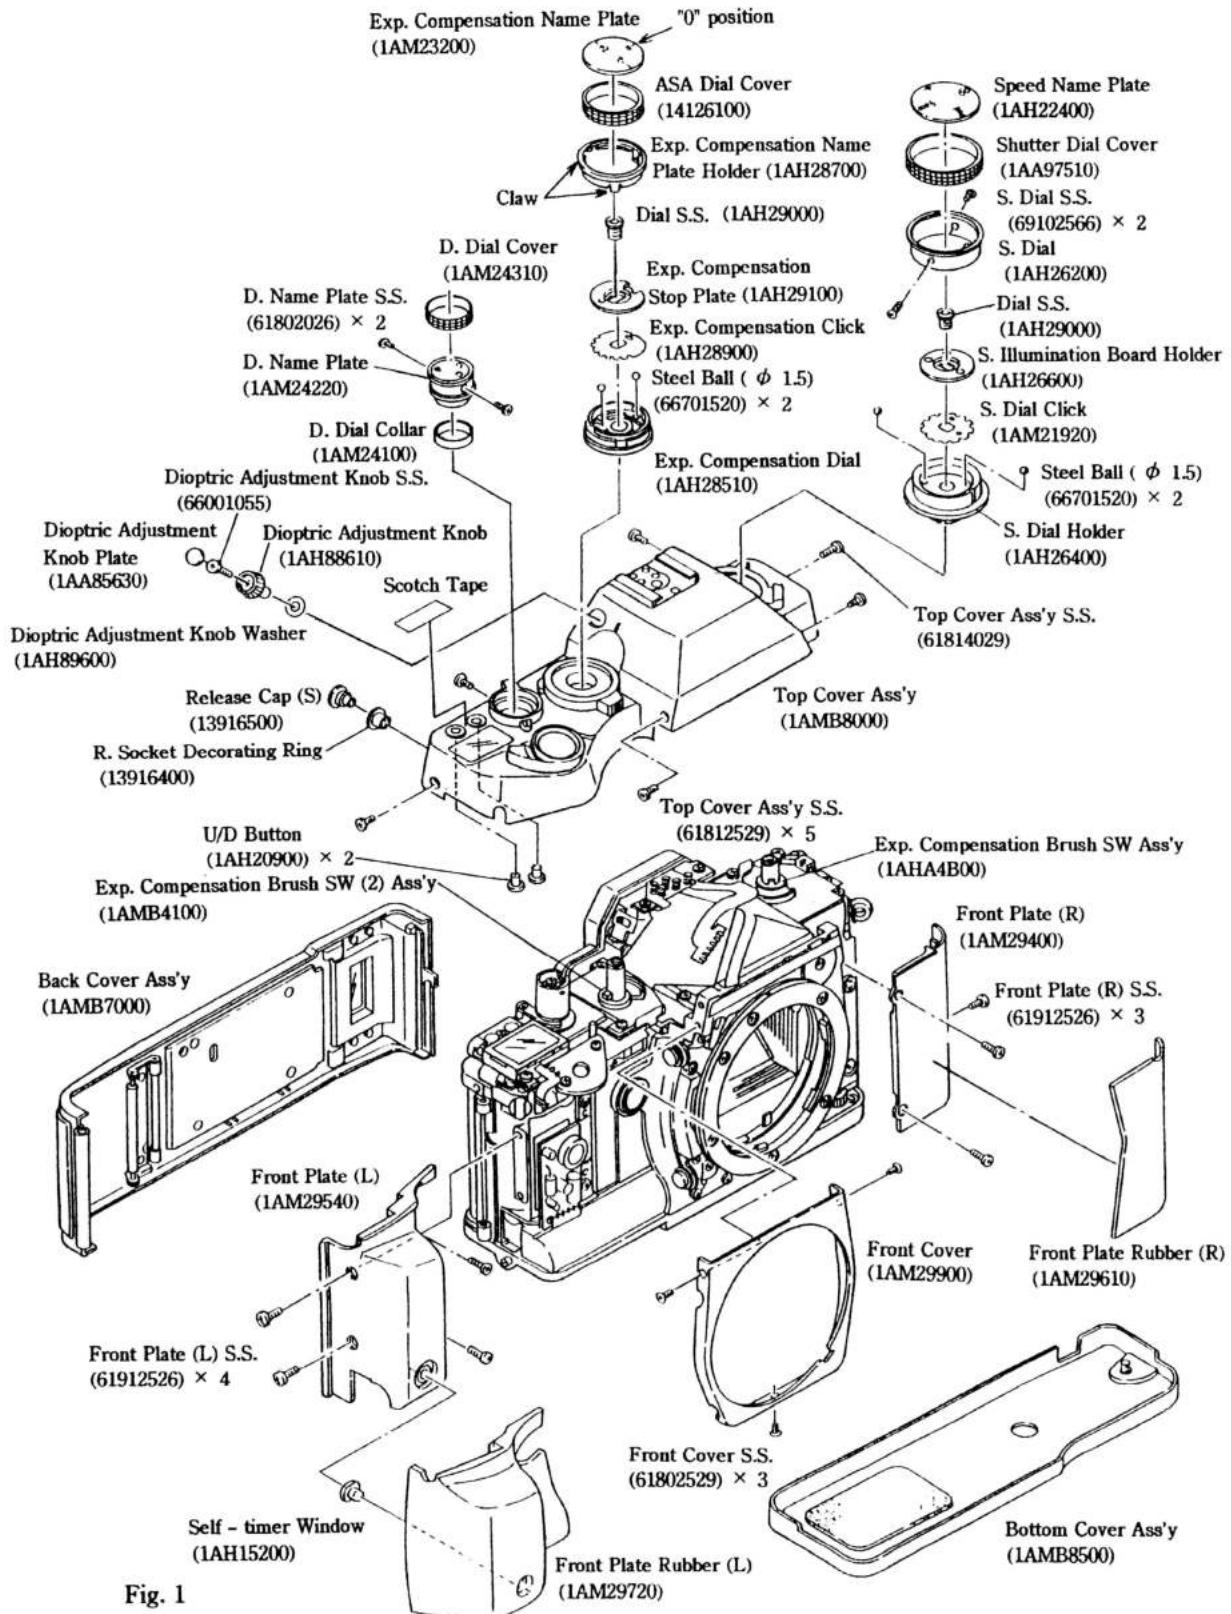

Fig. 1
11) Remove the Release Cap (S) (13916500) and R. Socket Decorating Ring (13916400).
12) Stick the Scotch Tape to the U/D Button (1AH20900) × 2. (See Fig. 1)
Notes: a) After the removal of the Top Cover Ass'y, you can take off the Exp. Compensation Brush SW Ass'y (1AHA4B00) and Exp. Compensation Brush SW (2) Ass'y (1AMB4100). (See Fig. 1)